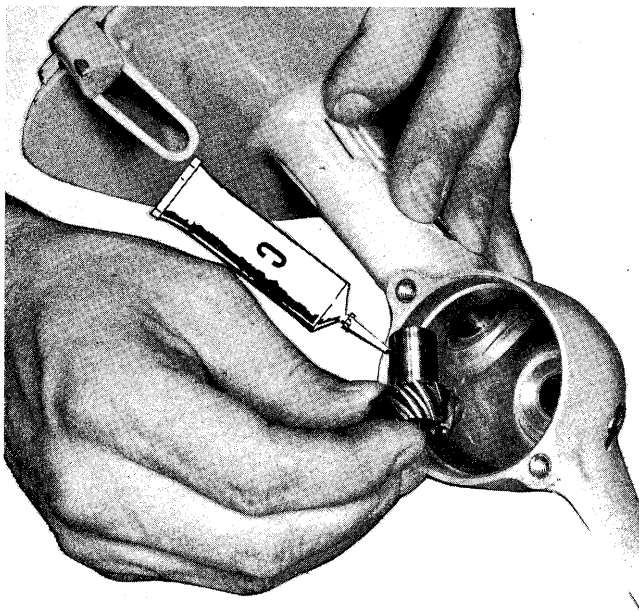

Figure 2
1. Coat pinion gear bearing surface lightly with OMC Type “C” lubricant and insert it into position in the gearcase (Figure 2).